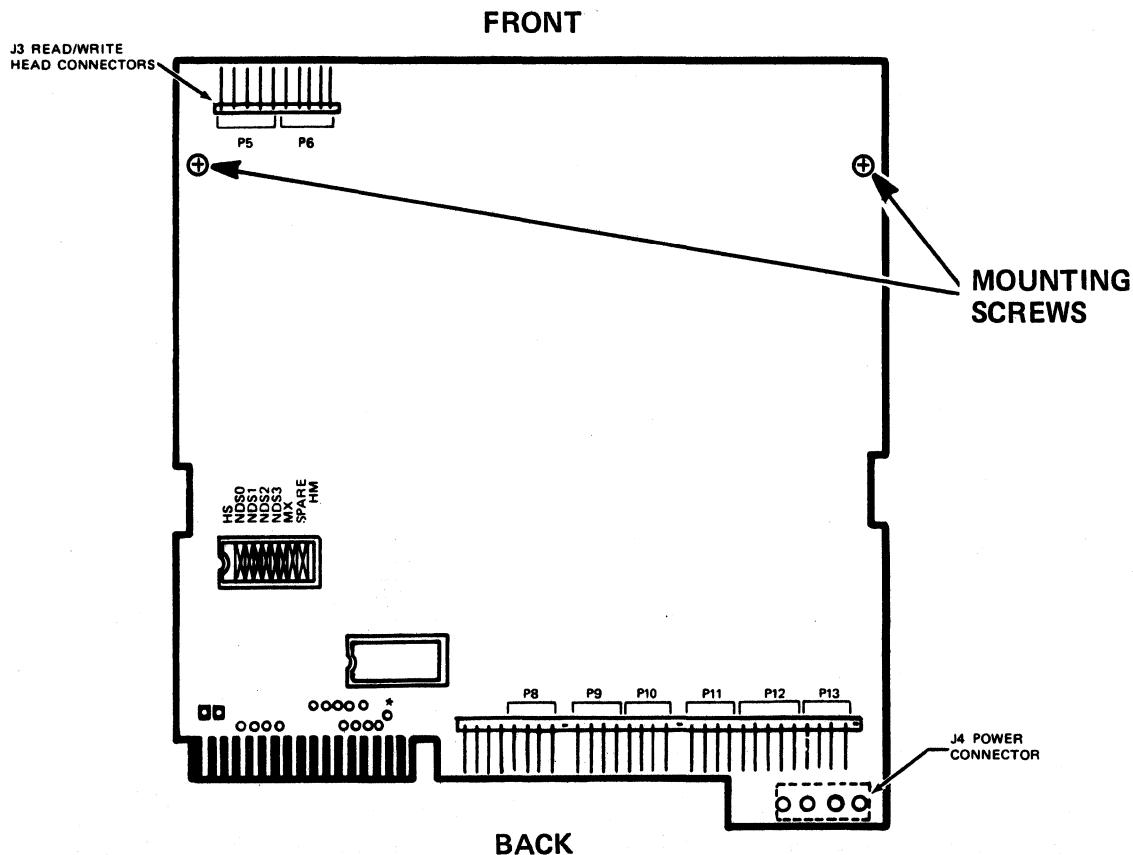

Figure 5-2
- 5.2.1 Unplug the eight (8) connectors on the Logic PCBA (see Figure 5-2).
5.2.2 With a Phillips screwdriver, remove the two (2) mounting screws that attach the Logic PCBA to the chassis (see Figure 5-2).
5.2.7 Plug in all connectors, ensuring that they are in their proper slots (see Figure 5-2).